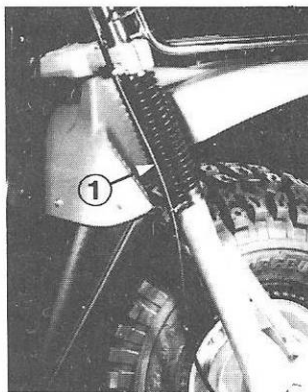

Fig. 34
- Check that the brake cable is securely mounted, see figure 34.